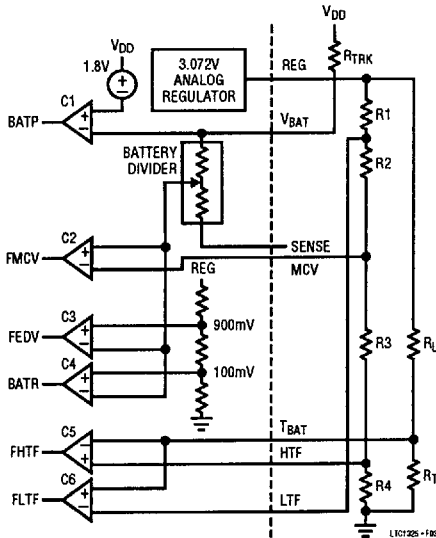

Figure 3. Fail-Safe or Fault Detection circuitry
The LTC1325 monitors the battery for fault conditions before and during discharge and charge (See Figure 3). They include: battery removed/present (BATP), battery reversed/shorted (BATR), maximum cell voltage exceeded (MCV), minimum cell voltage exceeded (EDV), high temperature limit exceeded (HTF), low temperature limit exceeded (LTF), and time limit exceeded (T_{OUT}). When a fault condition occurs, the discharge and charge loops are disabled or prevented from turning on and the fail-safe bit (FS) is set. The chip is reset by shifting in a new command word with the fail-safe clear FSCLR bit set. The 8-bit status word contains the state of each fault condition.
The simplest method to sense temperature (battery or ambient) with an NTC thermistor is to use a voltage divider powered by the REG pin. This divider consists of a load resistor R_L in series with a thermistor R_T as shown in Figure 3. For a given thermistor, there is a value of R_L which makes $V_{DIV}(T)$ linear over a narrow but adequate temperature range. The easiest method (Inflection Point Method) to calculate R_L is to set the second temperature derivative of the divider output to 0. The equations relevant to this method are:
This section discusses the considerations in selecting each component of a simple battery charger (see Figures 3 and 4).